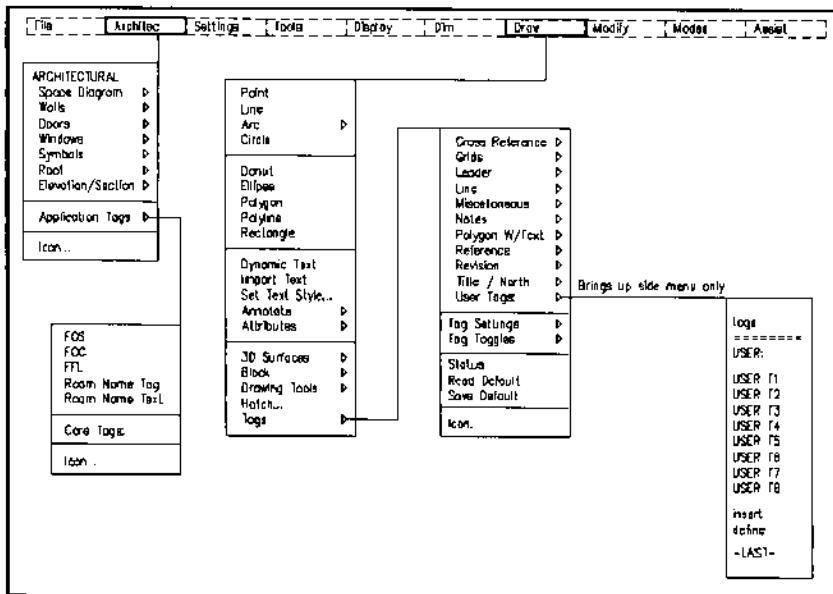

Figure 6.
- ASG offers a full palette of typical Architectural tag types as shown in Figure 6. The tag types are customizable.